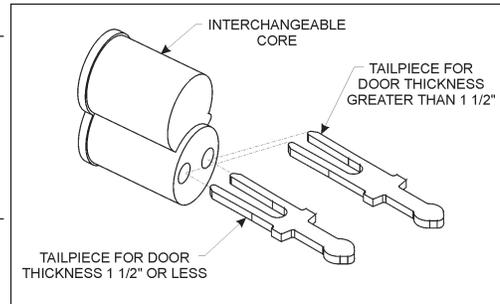

Figure 23
1. Insert the appropriate tailpiece prongs into the core. Refer to Figure 23.